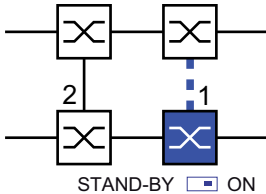

Figure 29: Two-Switch coupling
- Select "Two-Switch coupling" by means of the dialog button with the same graphic as below (see figure 29).